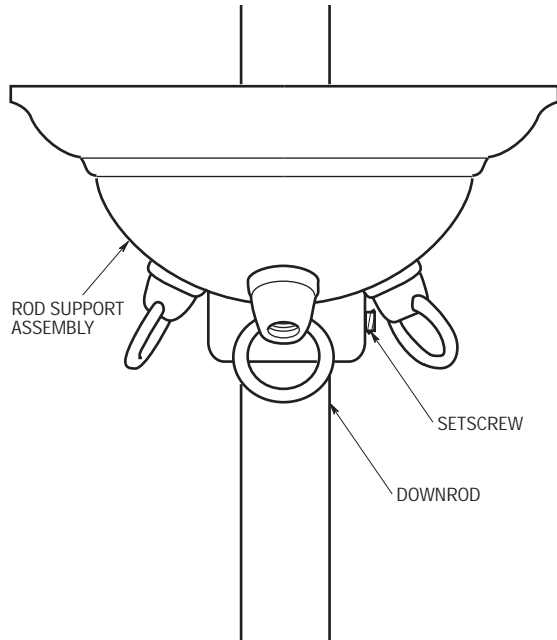

Figure 22
- 1. Loosen the setscrew in the collar of the rod support assembly using the 5/64" hex wrench (supplied) and slide the support assembly over the downrod (Figure 22).